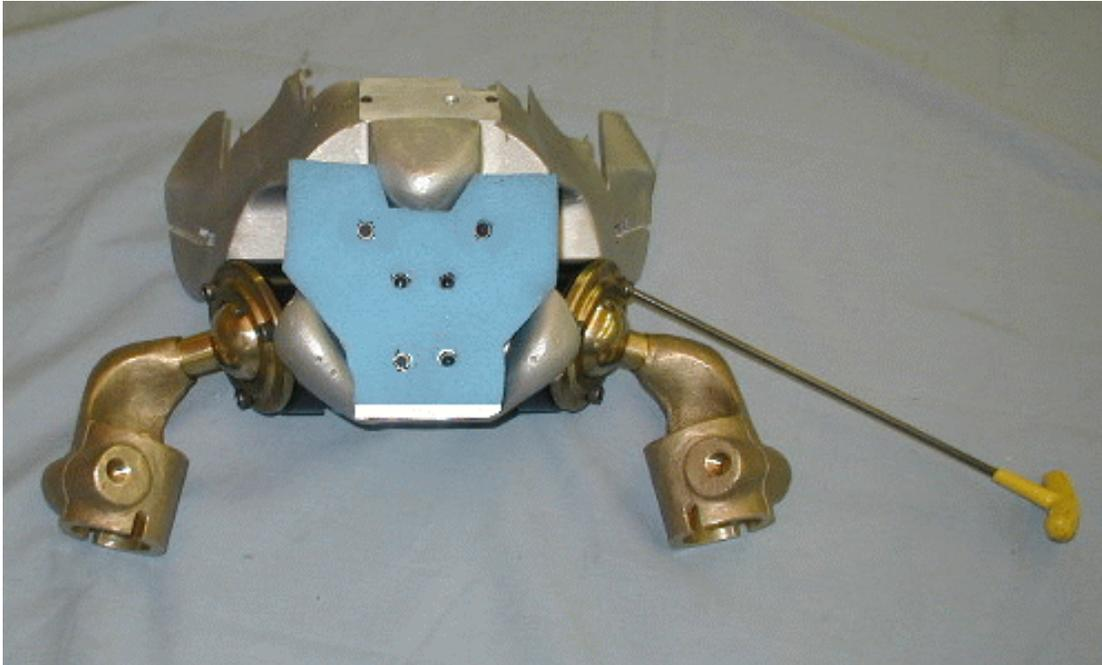

Figure 11.23- Femur ball joint assemblies attached to pelvis
19. Attach the Left Femur Ball Joint Assembly (T1FMM100) to the Left Pelvic Socket Adaptor (T1PLM217) using three 1/4"-28 x 5/8" SHCS {3/16} as shown in **Figure 11.23**.